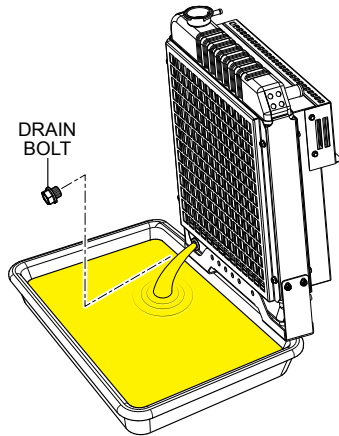

Figure 63. Draining Engine Coolant
1. Remove the coolant (Figure 63) bolt or **OPEN** the drain valve on the radiator and allow the coolant to drain into a suitable container.